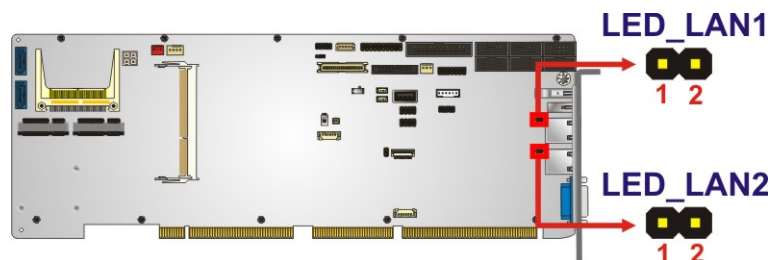

Figure 3-17: LAN LED Connector Locations
- CN Location:** See **Figure 3-17**